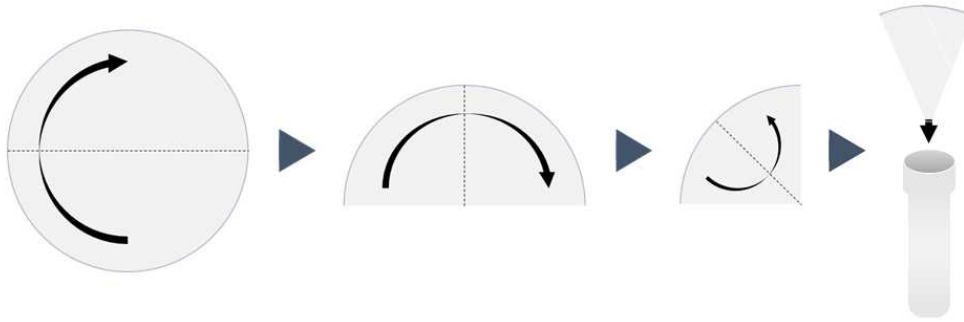

Figure 8 : How to fold the membrane
7. Switch off the pump and open the magnetic filter holder. Using the tweezers, carefully fold the filter and place it in a tube containing beads and DNA/RNA Shield (Fig. 8). Invert the tube several times to impregnate the entire filter. Make sure that the filter stays immersed in the buffer. Label and store the tube at -20°C for long-term storage.